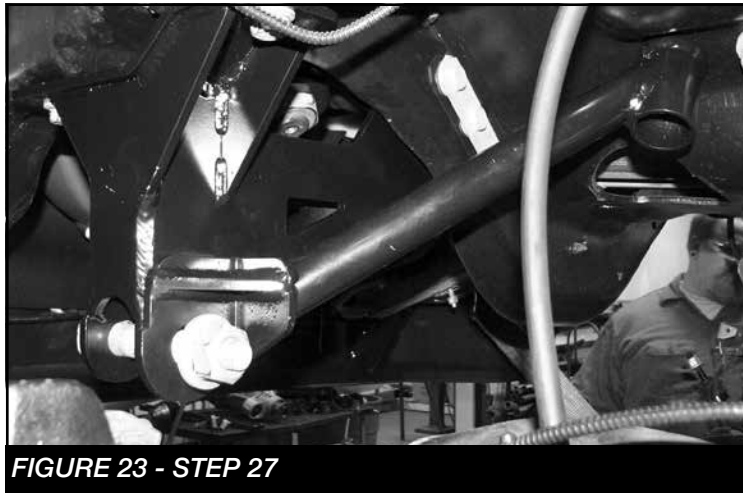

FIGURE 23 - STEP 27
27. Locate FT30273 track bar support bracket and attach first to the forward motor mount bolt on the driver side of the truck, then line the other end up to the track bar bolt. Torque the factory motor mount bolt to 75 ft. lbs and the track bar bolt to 400 ft. lbs. **SEE FIGURE 23**